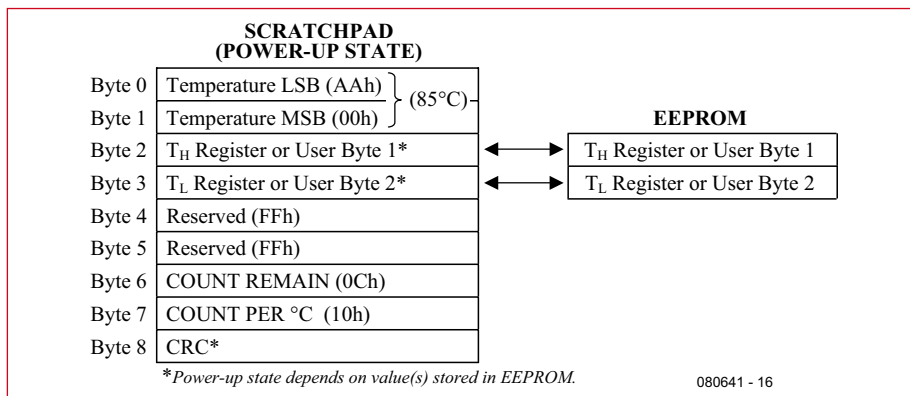

Figure 7. ROM contents.
Next comes the temperature measurement command CONVERT T [44h]. Immediately after this, the power supply must be switched on. Although the bus is already at a 'high' level in the idle state, this puts it in the low-impedance 'high' state (Ddrd.5 = 1). The maximum time necessary for making a measurement is 750 ms. To be on the safe side, you can always allocate 800 ms for this state. After this the port pin must again be configured as an input (Ddrd.5 = 0). The DS1820 now knows the temperature, but it still has to be read out. To do this, your first send a Bus Reset and then the Read Scratchpad command [BEh]. Up to eight bytes can then be read from the IC. The meaning of these bytes is described in the data sheet (see **Figure 7**). The temperature data is located in two bytes, but the data in the high byte only distinguishes between positive (00) and negative (FF) temperatures. If you want to read the temperature with higher resolution, you must evaluate even more bytes. However,